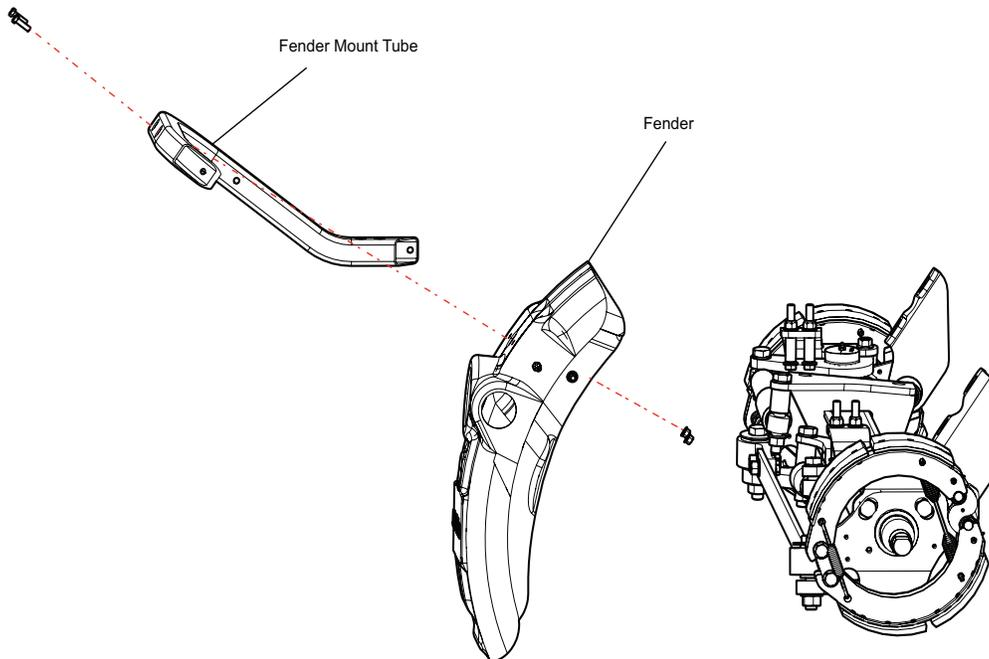

Figure 4: Remove existing fender mount tube and fender.
3. Remove the fender, fender mount tube and its bolts, nuts, and washers, and the light (if necessary). Retain the light and fender for reinstallation (see Figure 4). Discard the fender mount tube and hardware.